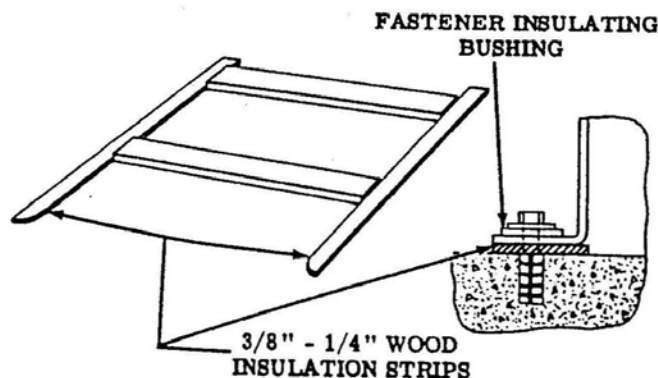

Figure 1. Insulation of PBX Frame
2.04 Wood insulating strips shall be used on concrete or terrazzo floors. These strips are not furnished with the PBX but shall be made up locally. These usually consist of 3/8" or 1/4" plywood in 1-1/2" or 2" width strips. See Fig. 1. Insulating bushings are supplied with the PBX and should be used when fastening to other than wood floors. When lead covered cable is used, care must be taken that the sheath does not touch the switchboard framework. Two layers of tape should be used to insulate the cable sheath from the metal framework. The cable may enter the PBX through the entrance hole provided or the floor, as re-